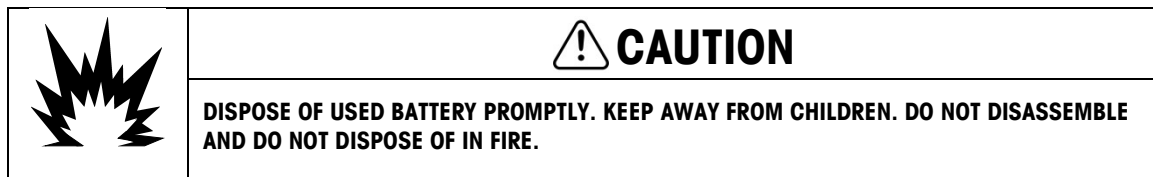

Figure 5-2: Battery Pack in Charger
5. When fully inserted, about 2/3 of the battery will extend out of the battery socket, as shown in Figure 5-2.